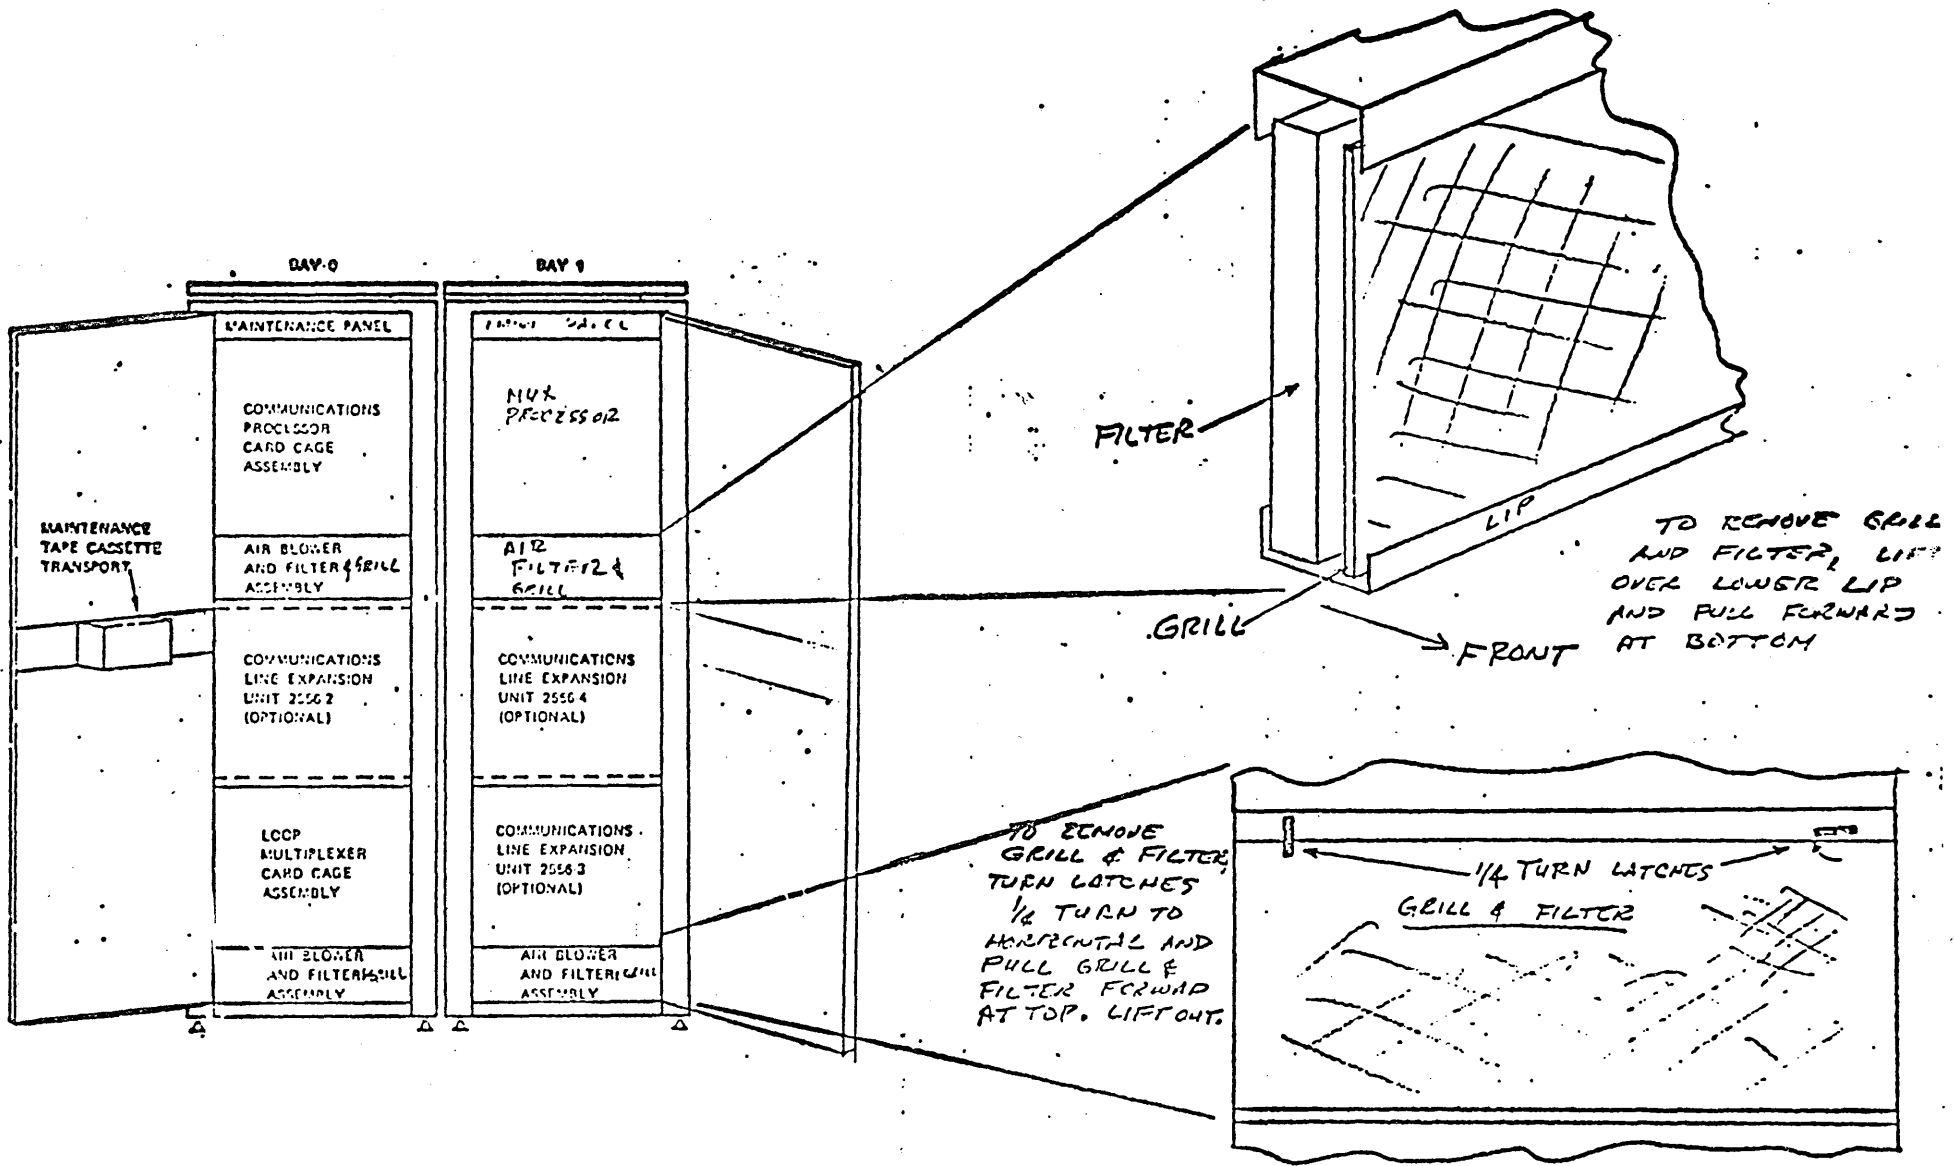

Figure 6A-2. Filter Assemblies
2. Refer to Figure 6A-2 for location and remove filter from the chassis. Use a vacuum cleaner to clean front and back surfaces of the filter.